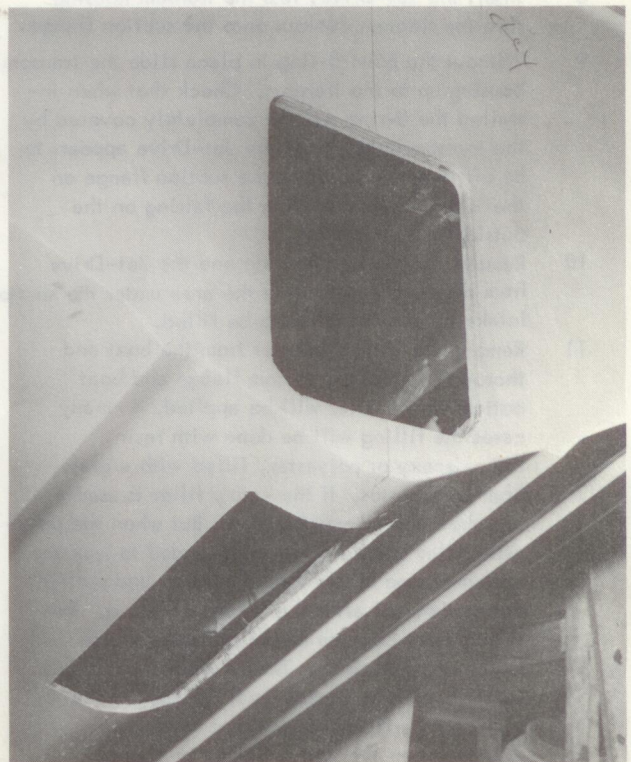

Figure 4
- 6 Cut the openings with a saber saw. The opening thru the boat bottom may be cut from the inside by first drilling four small holes at the corners of the marked cut-out and re-marking it on the inside of the boat (Figure 4).